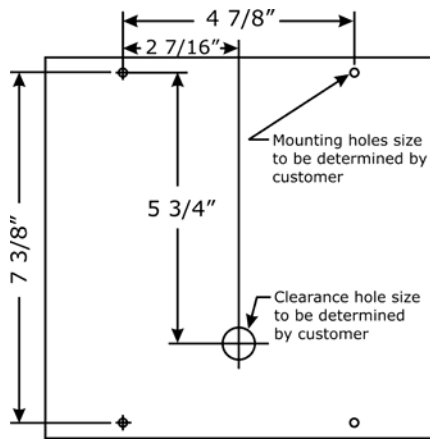

FIGURE 1. Holes Location
1. Position the first reader (item b in the Parts List) at the desired location. Observe ADA height requirements. Drill four holes for the screws or anchors, and drill one clearance hole for the cable (see Figure 1). The installer determines the size of mounting holes and cable clearance hole.